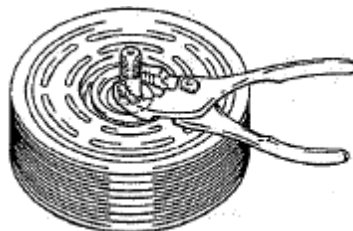

**Figure 12-08**
- (5) Reinstall rotor bearing snap ring, if it has been removed, with internal snap ring pliers. (Ref. figure 12-08)